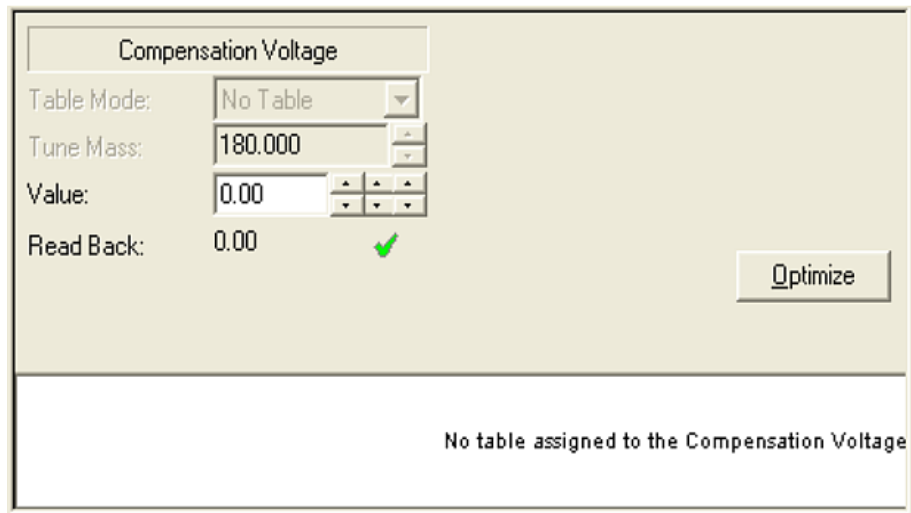

Figure 20. Tune table for the compensation voltage
2. Click on a FAIMS parameter listed under FAIMS Devices to display the Tune Table for that parameter, as Figure 20 shows.